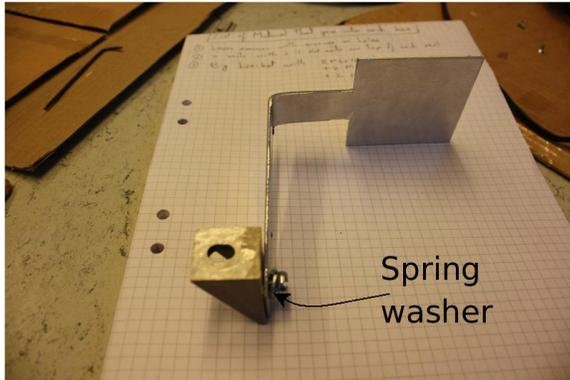
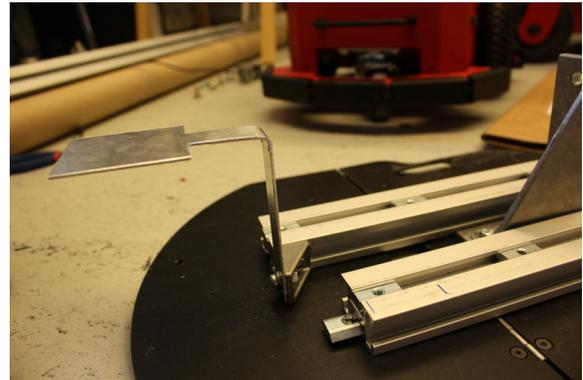
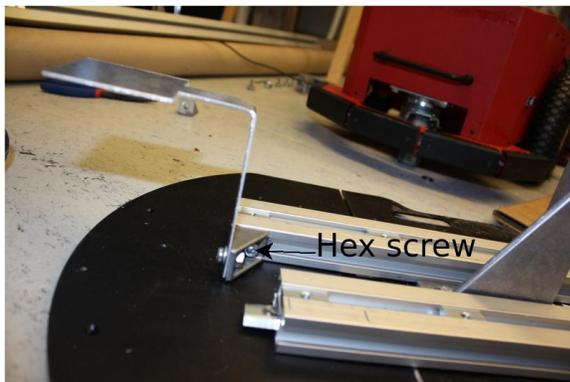

Figure 9: Laser protector assembly
Figure 10: Slide right rail back to get better access for mounting
Figure 11: Laser protector mounting
4. Mount the laser protector on the **long** side of the small bracket using a **spring washer**, a **M6x12 slot screw** (screw with a slot in its head for a screwdriver) and a normal **M6 nut** (figure 9). Thoroughly tighten this assembly right now! Then slide the right rail (as seen from robot front) back (figure 10) and fix the small bracket to the left rail (there will be a T-nut in place already), using a **M6 hex socket head screw** (figure 11). This type of screw will allow you to later remove the laser protector with a L-hex key without sliding the right